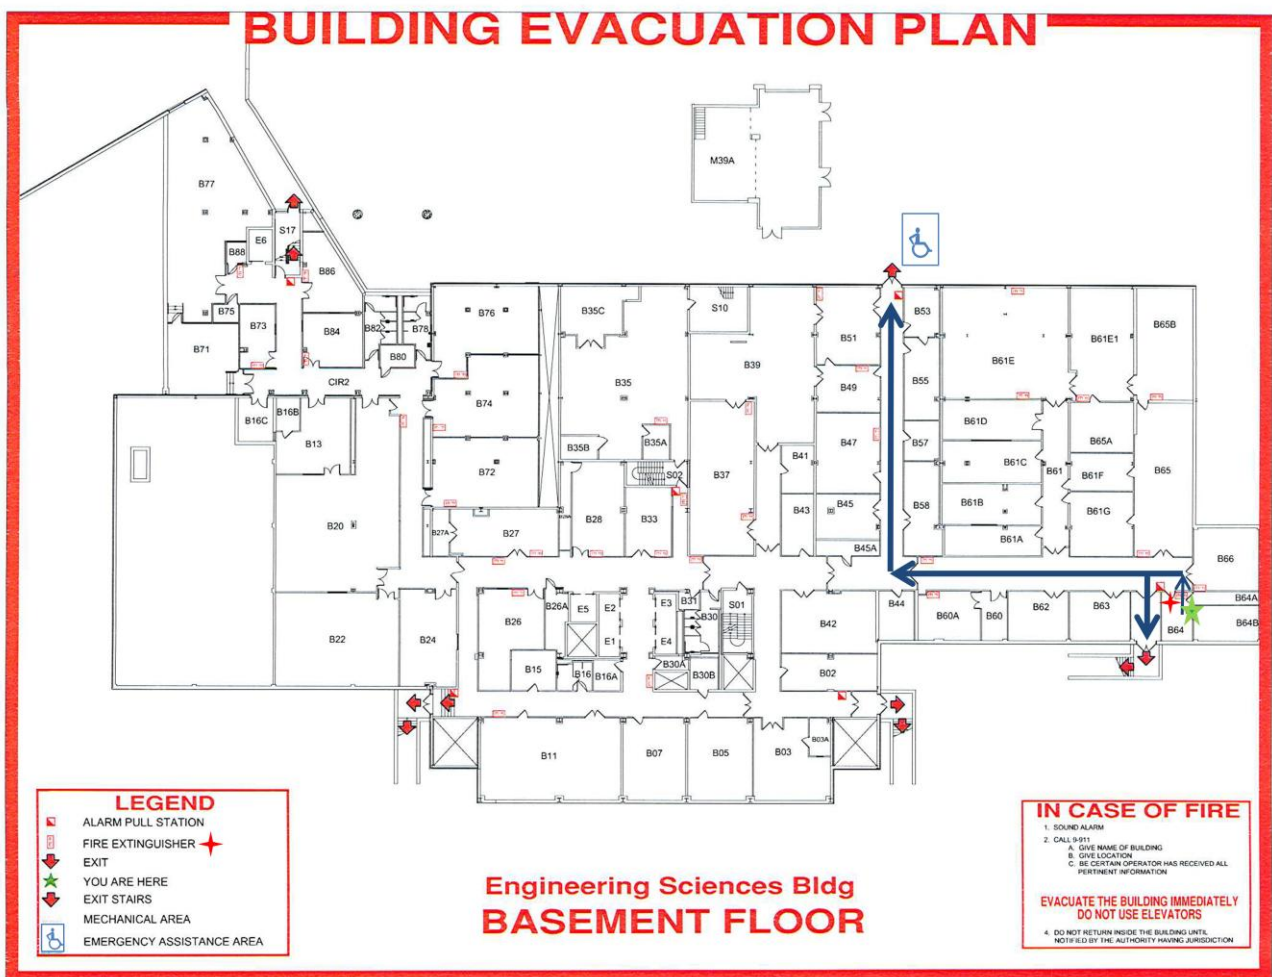

Figure 1: Sample Preparation Lab Evacuation Plan (room B64) in the basement of the Engineering Sciences Building. Closest exits marked with dark blue arrows
- Use the shortest, unobstructed path to the exterior of the building. (see Figure 1)